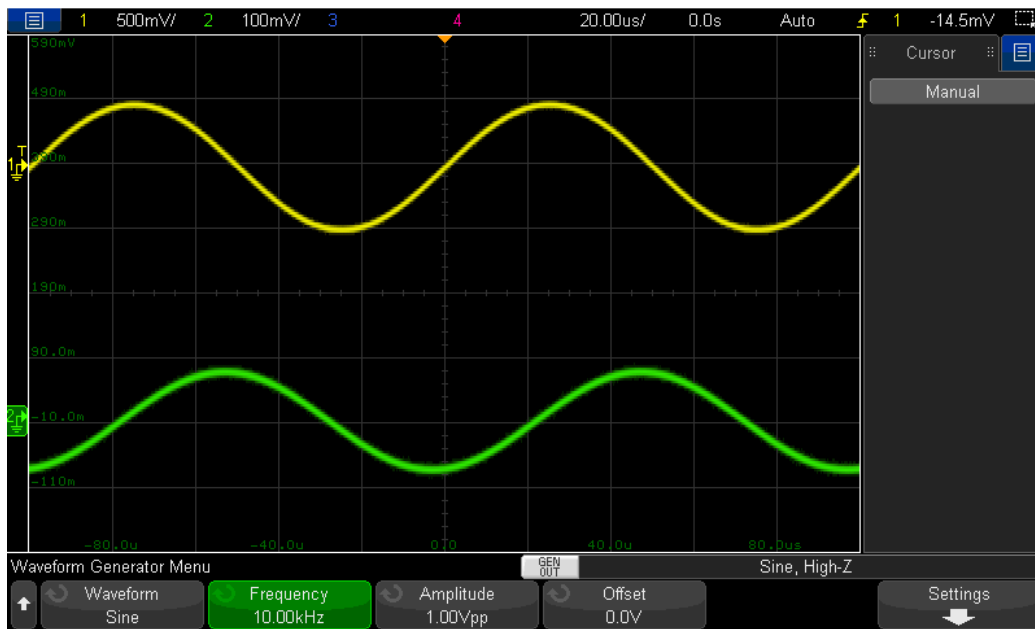

Figure 22: Scope window with waveform generator menu
- Select your waveform, frequency, amplitude, and DC offset by touching the corresponding parameter (Fig. 22)